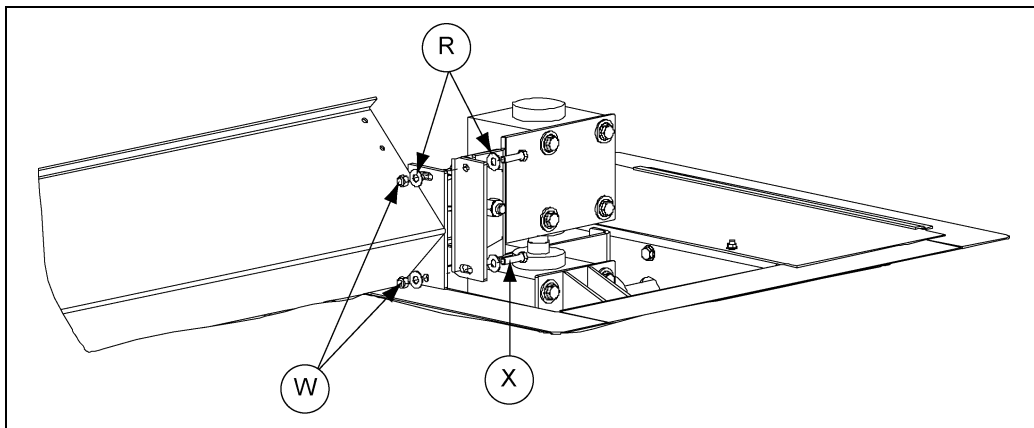

Figure 4AN
11. Bolt the first section of back shield to the shield pivot bracket (V) with two (2) 3/8" x 1-1/2" grade 8 bolts (X), four (4) flat washers (R) and two (2) nylock nuts (W). (See Figure 4AN.)